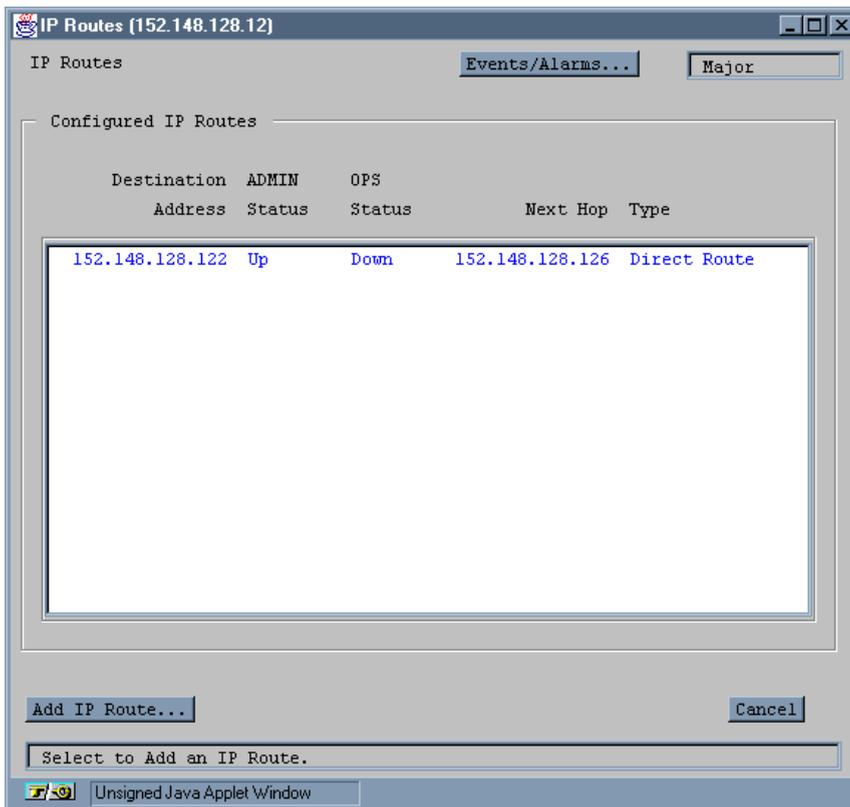

Figure 3-6. IP Routes Window
1. Choose the IP Routes button from the System Administration window. The IP Routes window appears (see Figure 3-6).